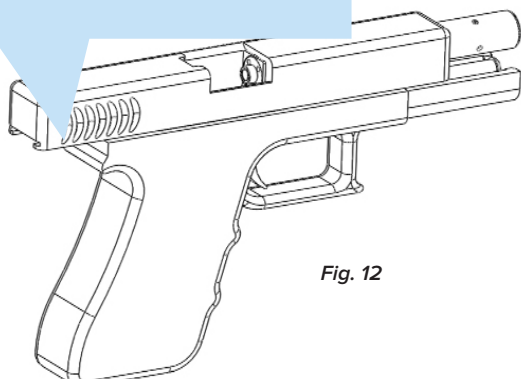

Fig. 12
3. Pull the slide toward the back of the gun exposing the chamber approximately an inch or so as shown in figure 12.